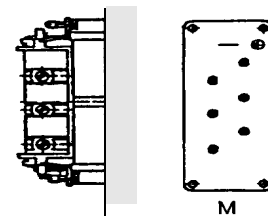

Figure 21 DIN male connector.
134 Connection via an industrial Harting 6HSB connector in accordance with DIN 41640. 35 A, 600 V, 6p + PE (see Figure 21). Cannot be combined with Flange disconnecter (142).